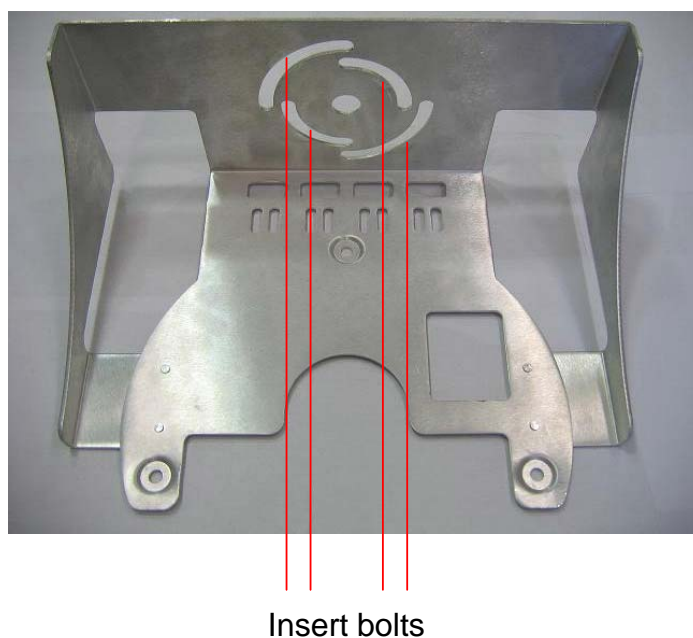

Figure 3.10. **Tray Mount for Wood Brace**
2. Attach the tray directly to the wood brace using four 5/8 inch diameter, 3 inch long lag bolts as shown in Figure 3.10. Use an appropriate Allen wrench to tighten the bolts. Make sure that the wood brace is level.